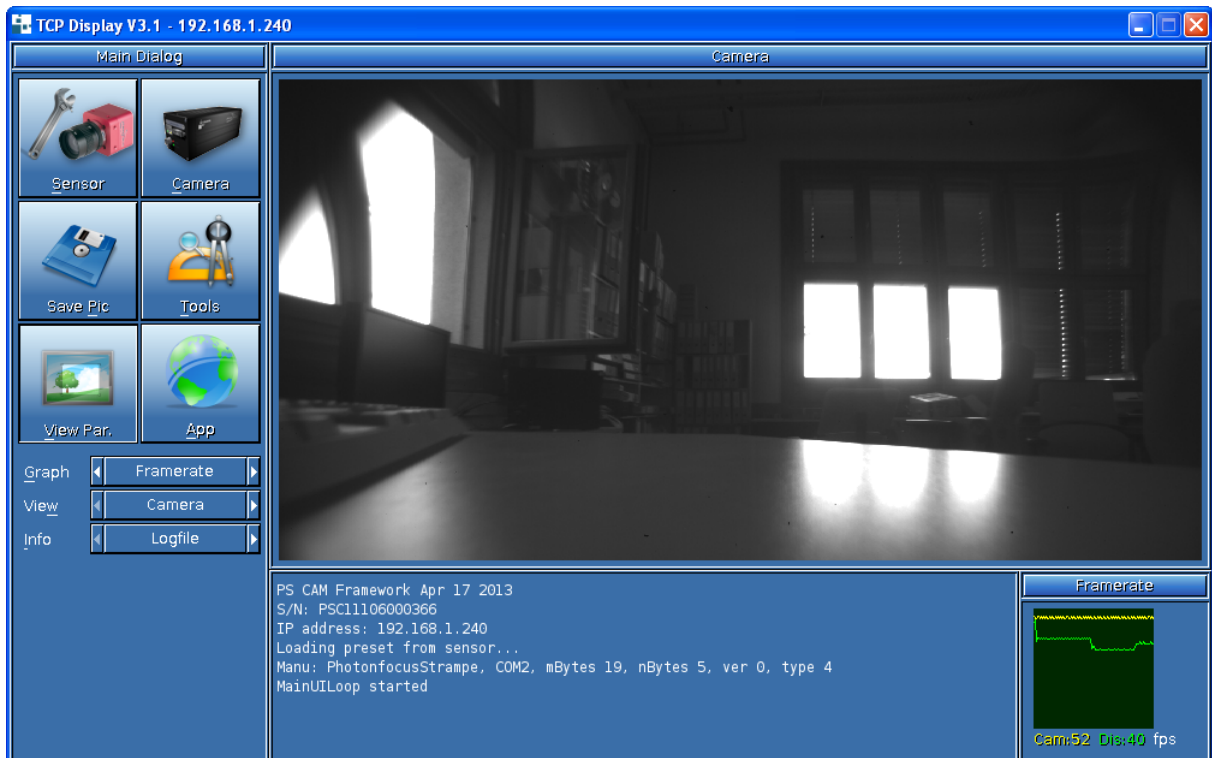

Figure 2.7: Framework (web server) start page
2. The web browser displays the web server main window as shown in Fig. 2.7.